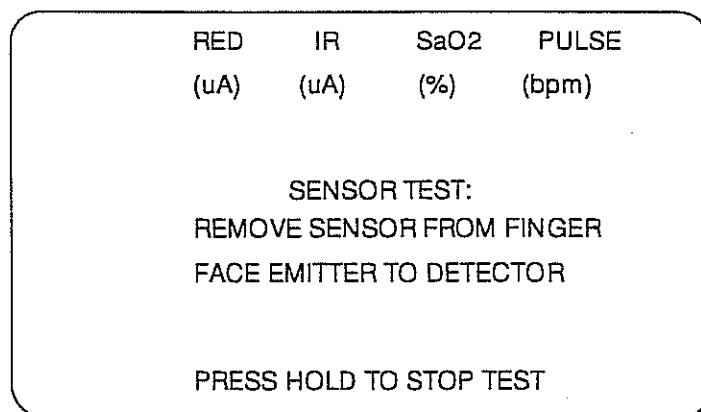

FIGURE 4-4
1. Select SENSOR TEST from the SaO₂ Diagnostic Menu. A set of instructions is displayed on the LCD panel as shown in figure 4-4.